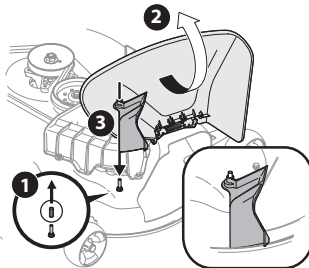

Figure 24
2. Remove the deck pin rubber protective cap (1) in Figure 24.
3. Raise the discharge chute (2 in Figure 24) on the deck and hold it while you install the bagger chute adapter (3) onto the deck as shown in Figure 24.